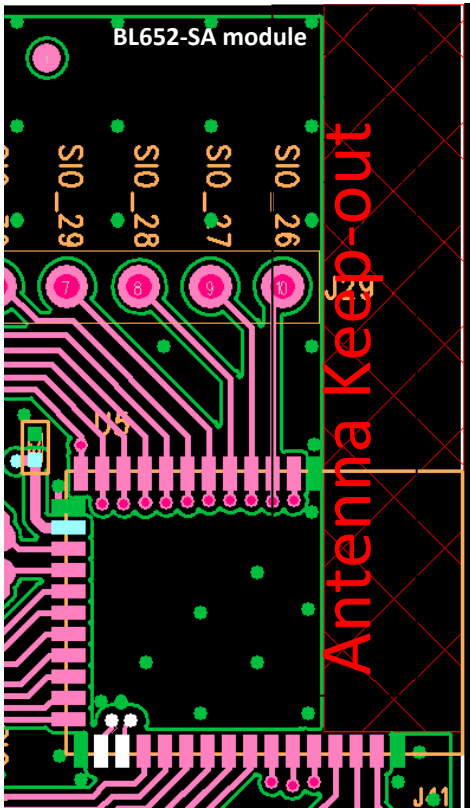

Figure 10: Antenna keep-out area (shown in red), corner of the BL652 development board for BL652-SA module.
performance evaluation is shown in Figure 10, where the antenna keep-out area is ~4.95mm wide, 25.65 mm long; with PCB dielectric (no copper) height 0.85 mm sitting under the BL652-SA antenna.
- Host PCB land pattern and antenna keep-out for the BL652 applies when the BL652-SA is placed in the corner of the host PCB. When BL652-SA cannot be placed as such, it must be placed on the edge of the host PCB and the antenna keep out must be observed. Figure 10 shows an example.